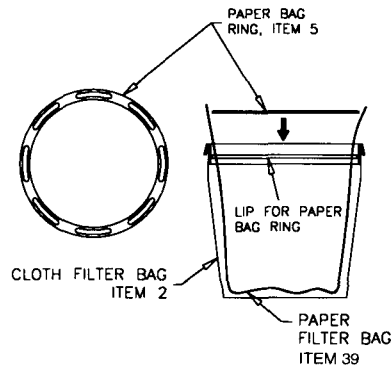

FIG. 2
4. GENTLY REST THE PAPER BAG RING ON THE LIP OF THE CLOTH BAG (FIG. 2)